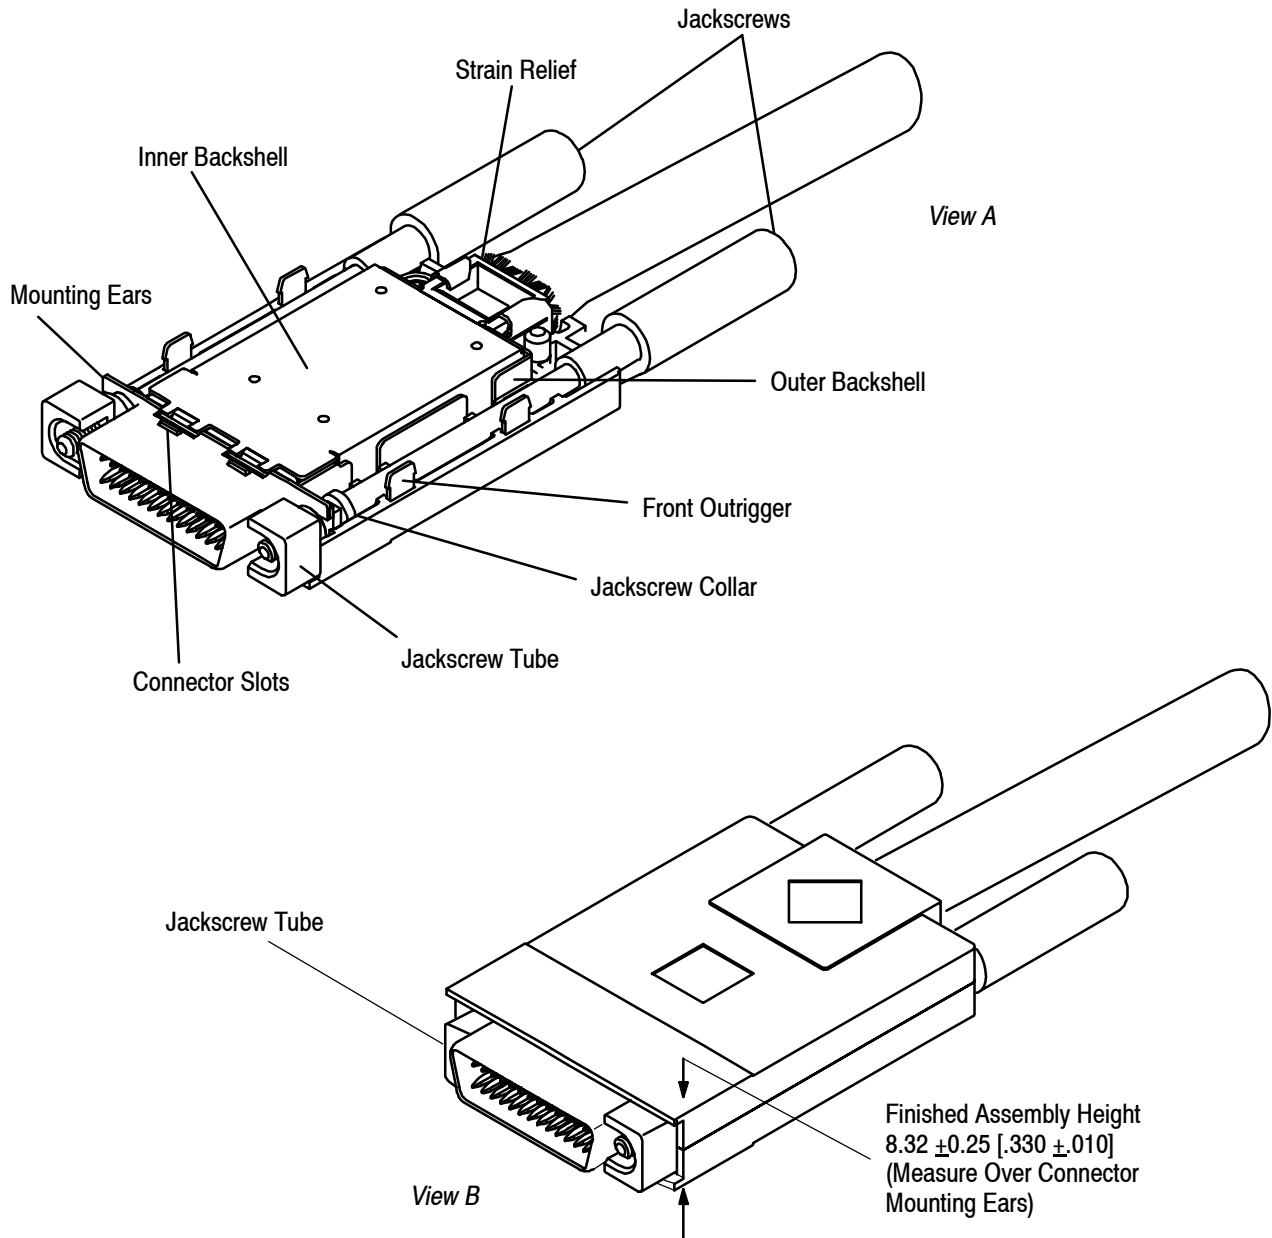

Figure 17
4. Two jackscrew tubes must be placed on the mounting ears of the plug connector and backshell with the open side toward the center of the connector. See View A, in Figure 17.
5. Jackscrew threads must pass through the insert with the collar between the insert and the front outrigger on the backshell. The outrigger and strain relief must be in the appropriate slots in the cover. See View A, Figure 17.
6. Cover halves, measured over the connector mounting ears, must be bottomed on each other within the dimension specified in View B, Figure 17.